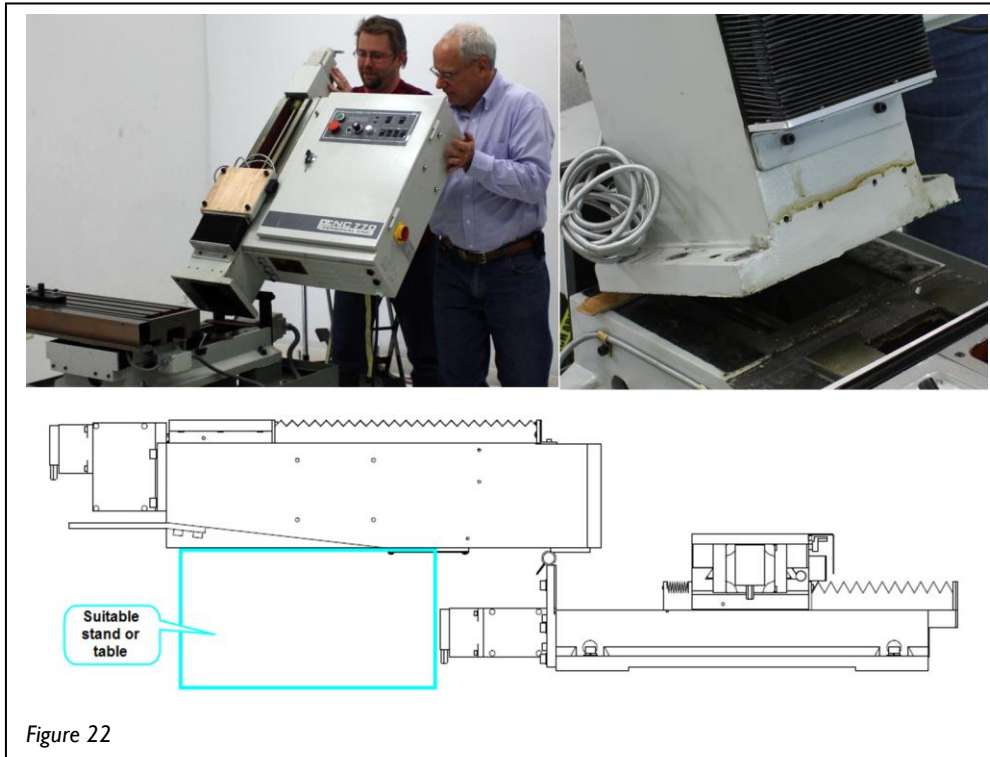

Figure 22
- j) Position a suitable stand or table behind the mill. If this is being done at ground level, then suitably sized timbers may be used. Using 2 people, gently tilt the Column backwards until it comes to a rest horizontally. See Fig. 22.